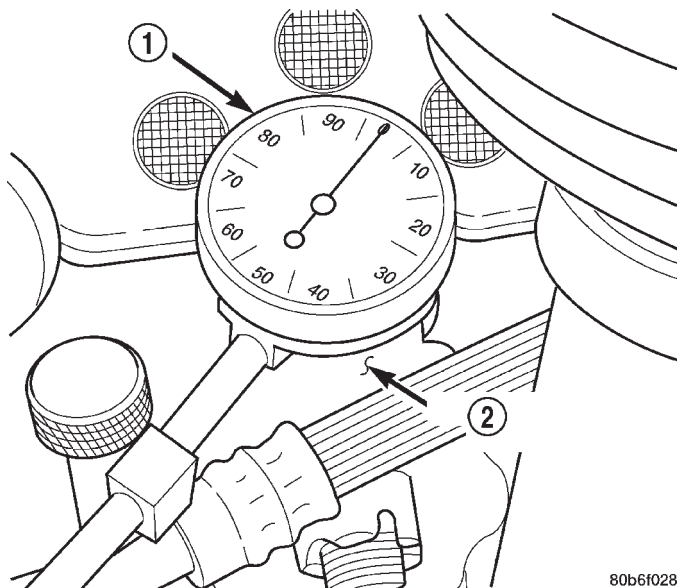

Fig. 3 Upper Ball Joint Boss
(2) Mount a dial indicator solidly on the upper suspension arm.
(3) Position the indicator plunger against the back side of the upper ball joint boss of the steering knuckle (Fig. 3).